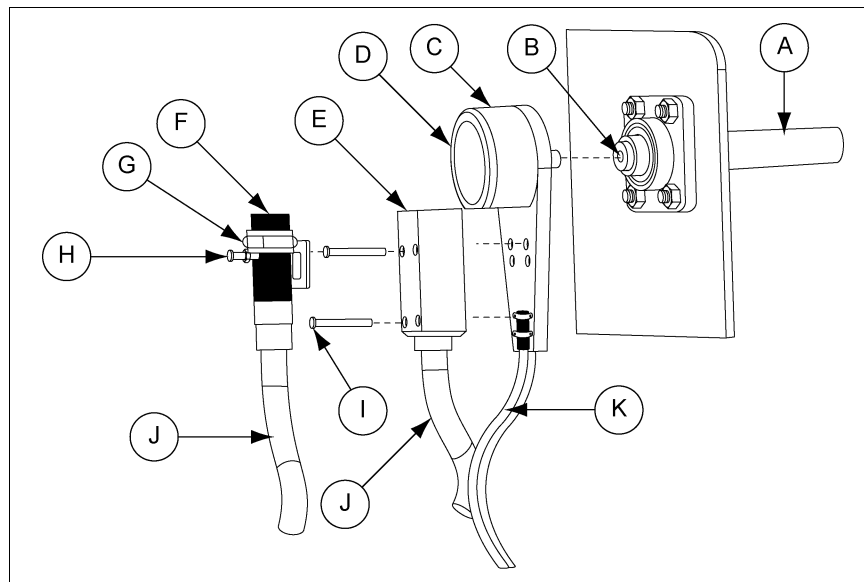

Figure 8A
2. Thread the Whirligig onto the machine shaft using 5/8" open ended wrench and suitable thread locking adhesive (loctite or similar). (See Figure 8A.)
3. Install the sensor to the Whirligig base plate. Two (2) sets of pre-drilled holes are provided for M800 sensor. Fit the sensor to leave an approximate 2 mm gap between sensor face and cover. A universal bracket (WGB18/30) is supplied for fitting 18 mm or 30 mm sensors.